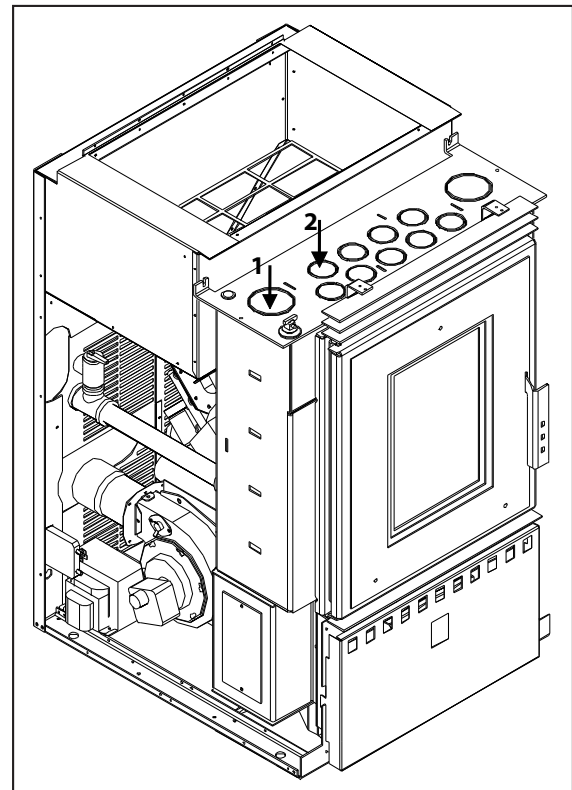

Figure 13
5. Clean the tubes referred to in Figure 13 as #1; one on each side. Use a 3" (75 mm) cleaning brush to scrub the tubes from top to bottom until buildup is removed.
6. Clean the tubes referred to in Figure 13 as #2; nine total. Use a 2" (50 mm) cleaning brush to scrub the tubes from top to bottom until all buildup is removed.